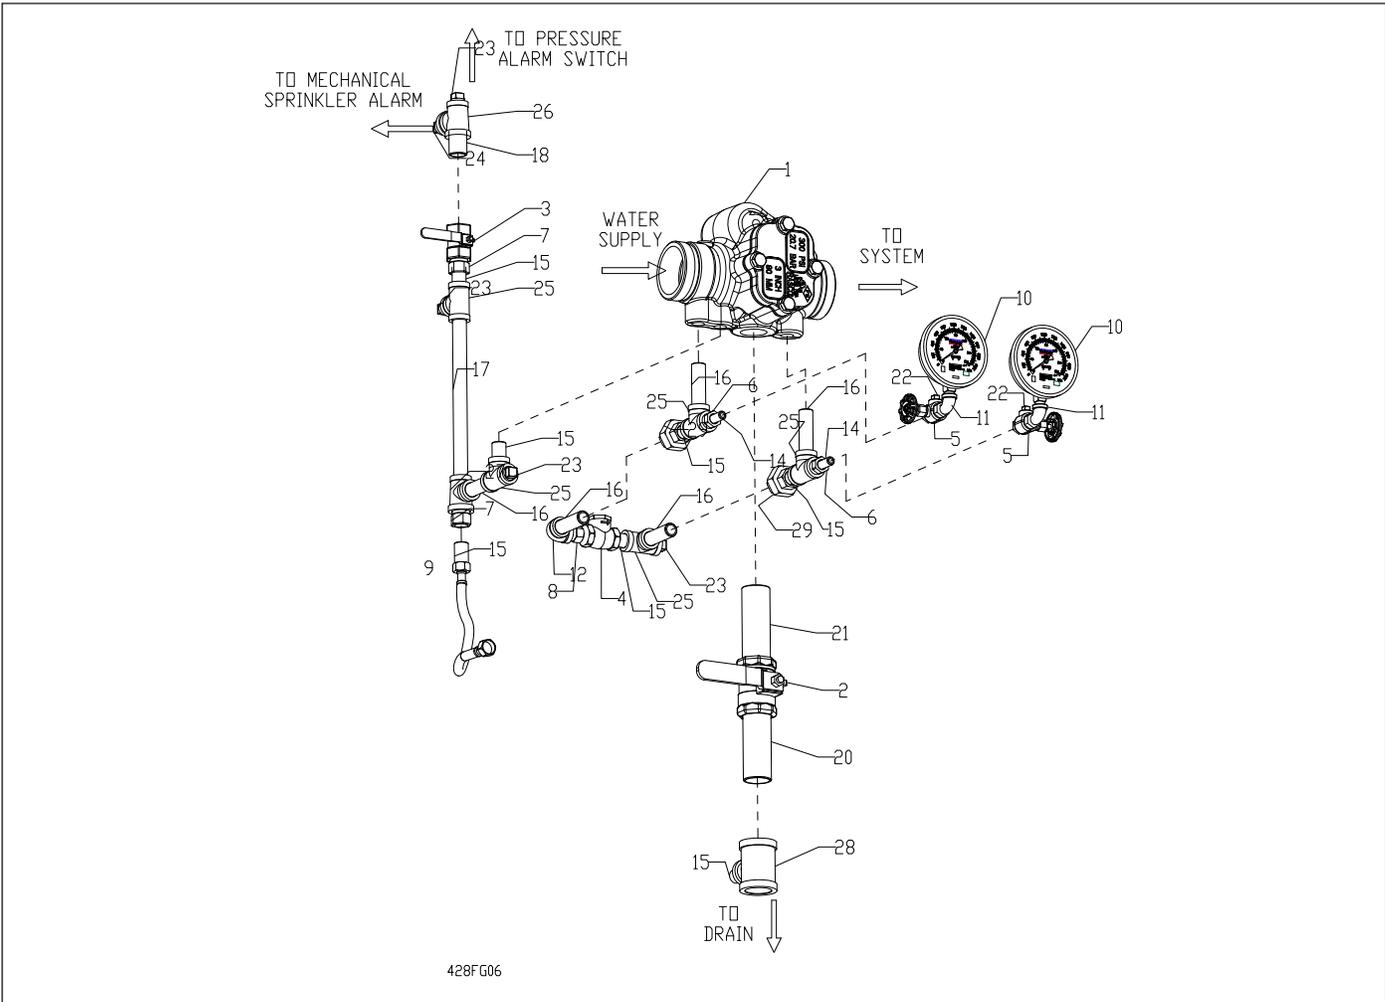
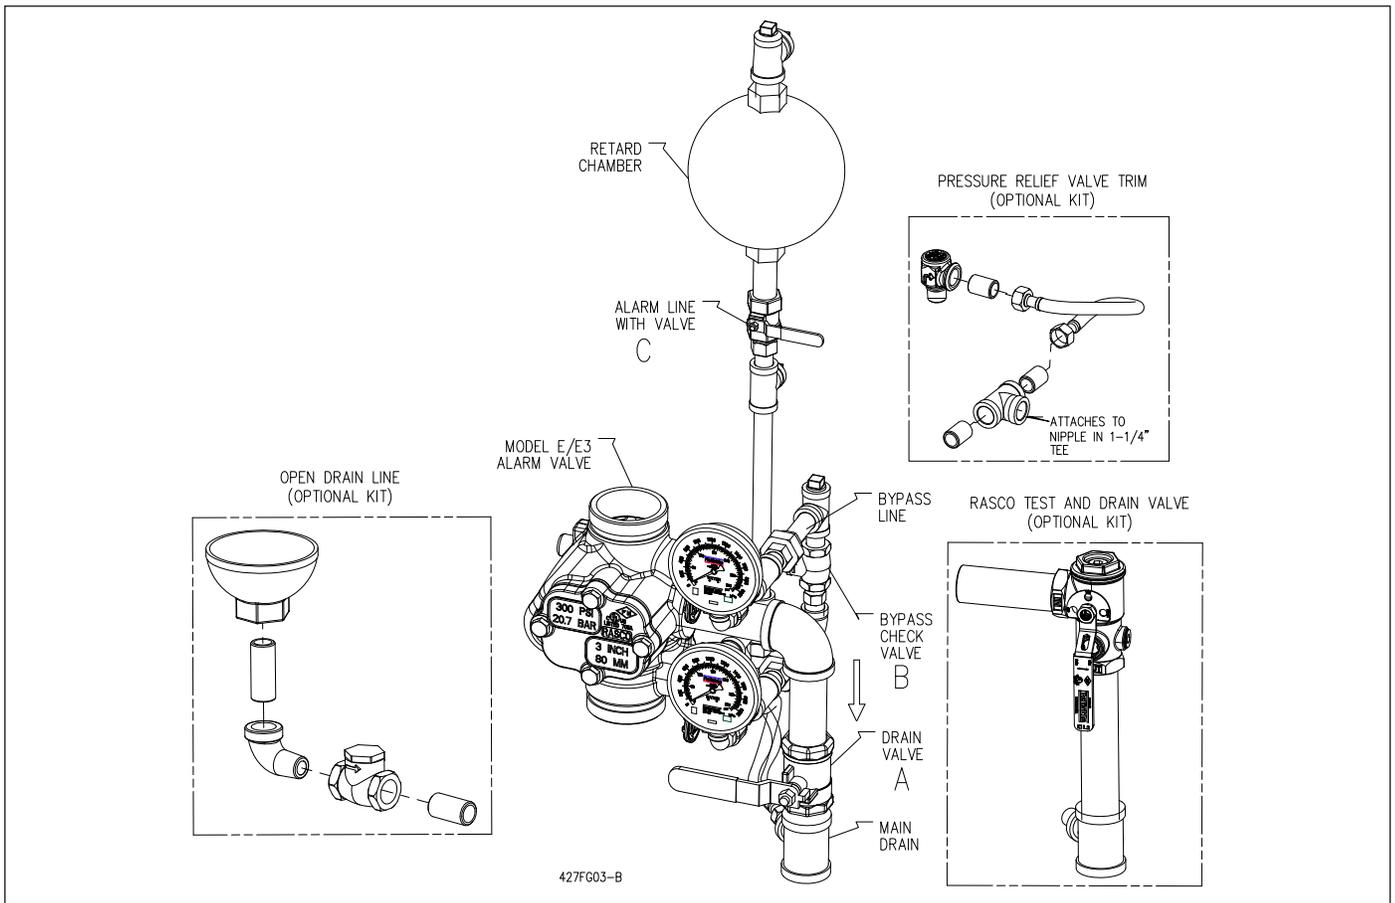
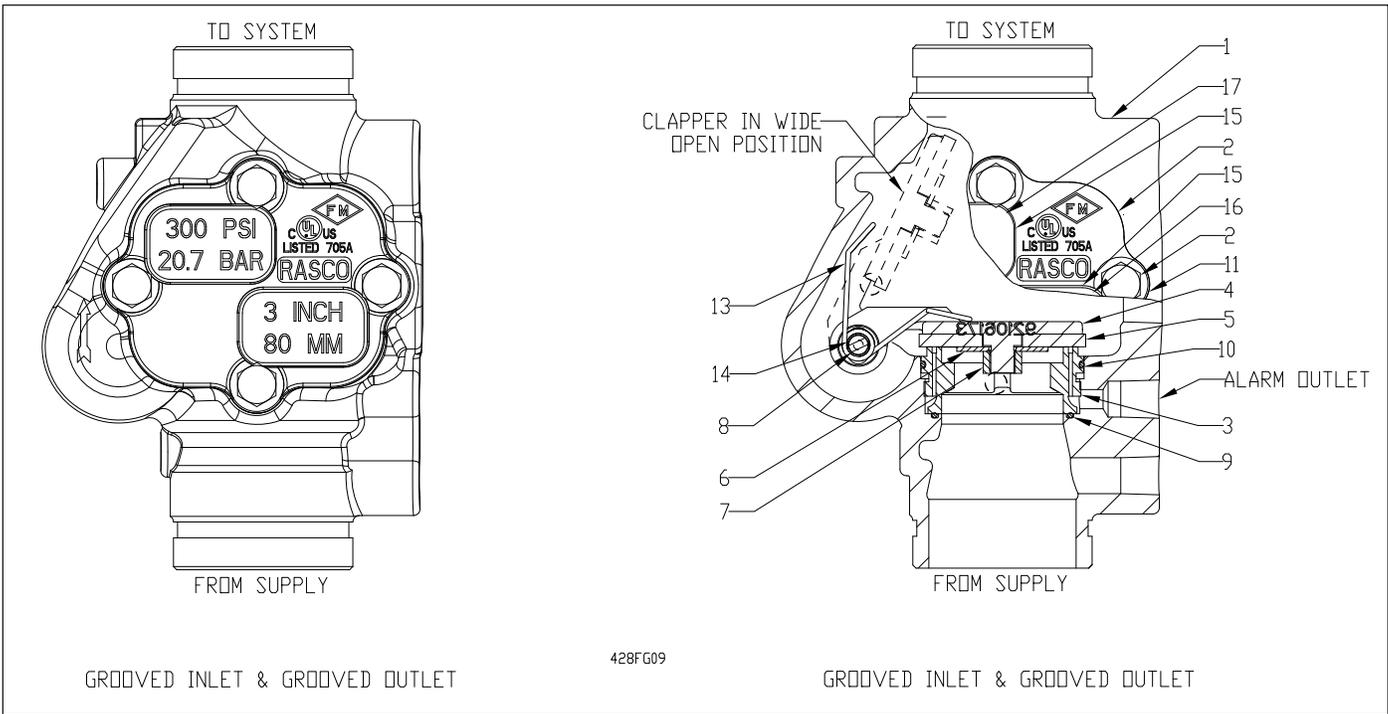

Fig. 6
Fig. 7
Fig. 9
1. The Bypass Line, Fig. 7 & 8, with Check Valve (B) allows surges to pass from the supply to the system side of the alarm valve clapper without lifting the clapper off its seat. Repeated surges build up an effective excess pressure in the system which steadies the clapper and prevents false alarms. Should a heavy surge force the clapper off its seat and allow water to flow into the alarm line, the Model E1 Retard Chamber comes into action
Horizontal Trim Parts List (Refer to Fig. 6)
- **Tests (see Figs. 7 & 8)**
1. Open Valve (A), Fig.7, to drain which should flush any loose matter off alarm valve seat. Close valve and observe if water flow ceases.
- 2) Clapper Assembly: Item 4, Figure 9.
- 3) Seat "O"-Rings: Items 9 and 10, Figure 9.
- c. In either case (a or b), drain system by opening Valve (A), Figs. 7 & 8 to drain. Remove Cover (2), Fig. 9, Shaft Pipe Plug (14), Hinge Pin (8) and Clapper Assembly (4).
- 2) Remove "O"-Rings, Items 9 and 10, Fig. 9. Thoroughly clean "O"-Ring grooves and sealing surfaces. Inspect for damage or foreign material.
- 1) Replace clapper assembly (Fig. 6) on seat alarm valve – insert Hinge Pin (8) in valve and pass it through one bearing of Clapper (4) – Press and hold Spring (13) securely in position between clapper alarm bearings and push hinge pin through spring coils and bushings to far side of valve – Replace Shaft Pipe Plug (14).
- 3) Replace Cover (2) being sure Cover Gasket (11) is in position and bolts and nuts are securely tightened.
- 4) Close Drain Valve (A), Fig. 7. Slowly open main control valve. Be sure Valve (C) and the main control valve are properly supervised in the OPEN position.
– Leaking system drain valves, leaking at the Alarm Valve Seat (3), Fig. 9, leaking between the Clapper (4) and the Facing (5), or leaking at the Bypass Check Valve (B), Figs. 7 & 8.
Service kits are available for routine servicing of the valve (reference Figure 9). Service kits for the Model E and E3 Alarm Check Valve include the following components: